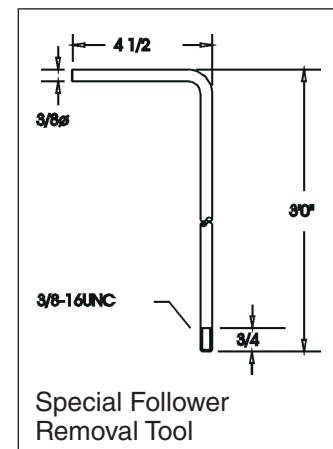

Figure 4
1. Secure the hook/case assembly (15) in vertical position with the hook down.
4. Use a special follower removal tool (Figure 4) to remove one half of follower. This is accomplished by threading into the follower flange, and raising the follower as high as possible. Then lower approximately .25 inch and tilt out. It may require some movement side to side and up and down to completely remove both of the follower halves. If the split follower bushing is badly worn and rotated, the follower may have to be rotated to align with the splits of the bushings before removing.
2. Install bonnet (31) onto hook (16) and install retaining ring (29).
4. Install hook thrust bearing (21). When being assembled, the thrust bearing must have the race with the large bore against the case or the hook will not swivel properly. The small bore race must be against the follower. The race bores should be measured with micrometers or calipers, as there is only .016 inch difference between upper race, and lower race. Large chamfer on outside diameter of lower race should be facing case. Large chamfer on inside diameter of upper race should be facing towards follower. Note: Before re-assembly of hook into the case, it is advisable to check the fit of the thrust bearing over the follower/bushing assembly. To accomplish this, the follower/bushing assembly can be clamped on the hook shank, and the thrust bearing fit over the follower. If the thrust bearing will not fit, then some light buffing of the inside surface of the follower bronze bushing may be required.
5. Install follower halves (20) onto the top of the hook thrust bearing using special follower removal tool (Figure 4 on page 7). The followers have a close fit around the hook and the case, so installation may require some up and down, and side to side movement. Verify follower halves are free of burrs.